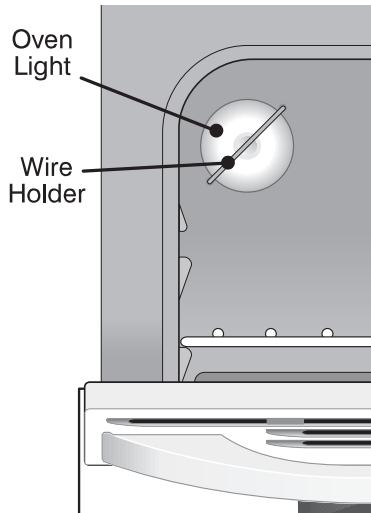

Fig. 1
1. Open oven door completely (horizontal with floor - See Fig. 1).
3. Fully open the oven door (horizontal with floor - See Fig. 1).
For models equipped with the interior oven light, the light bulb is located at the rear of the oven and is covered with a glass shield held by a wire holder (See Fig. 1). The glass shield must be in place whenever the oven is in use.